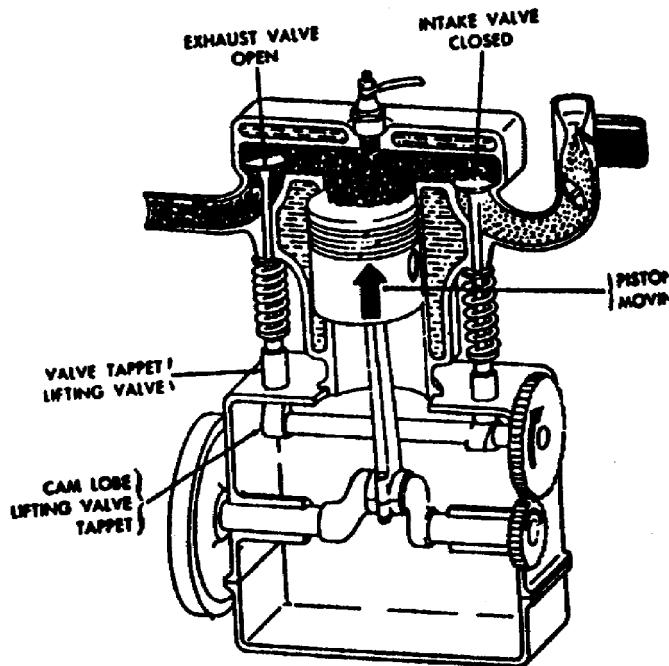

Figure 1-10. Exhaust Stroke.
d. Exhaust stroke. After the air-fuel mixture has turned, it must be cleared from the cylinder. This is done by opening the exhaust valve just as the power stroke is finished and the piston starts back up on the exhaust stroke. The piston forces the burned gases out of the cylinder, past the opened exhaust valve. The four strokes (intake, compression, power, and exhaust) must be automatically repeated over and over in the same sequence in each cylinder if the engine is to run (Figure 1-10).